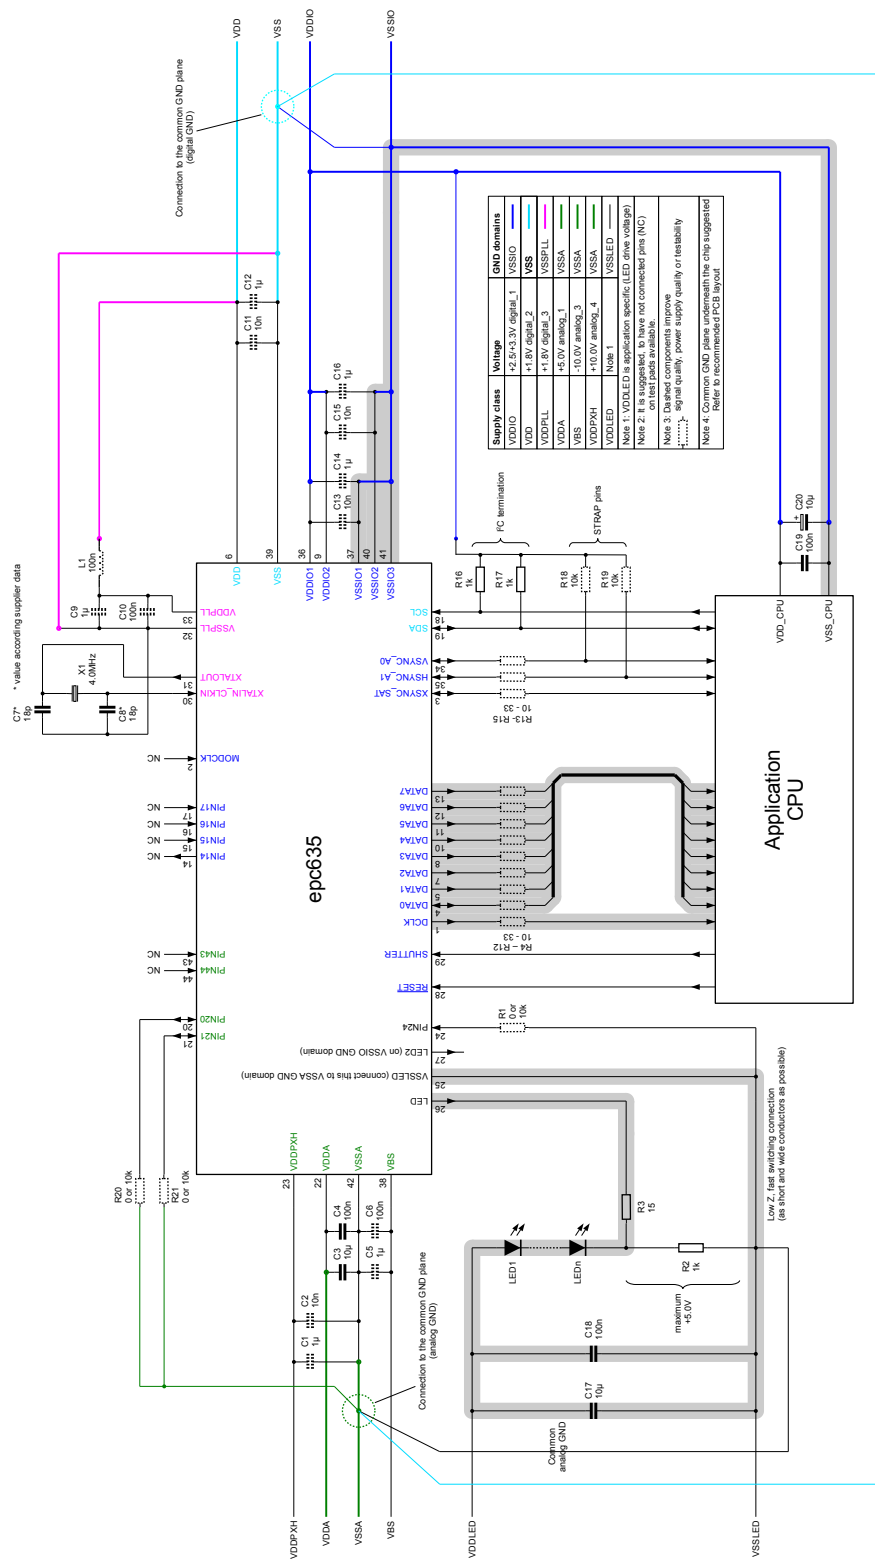
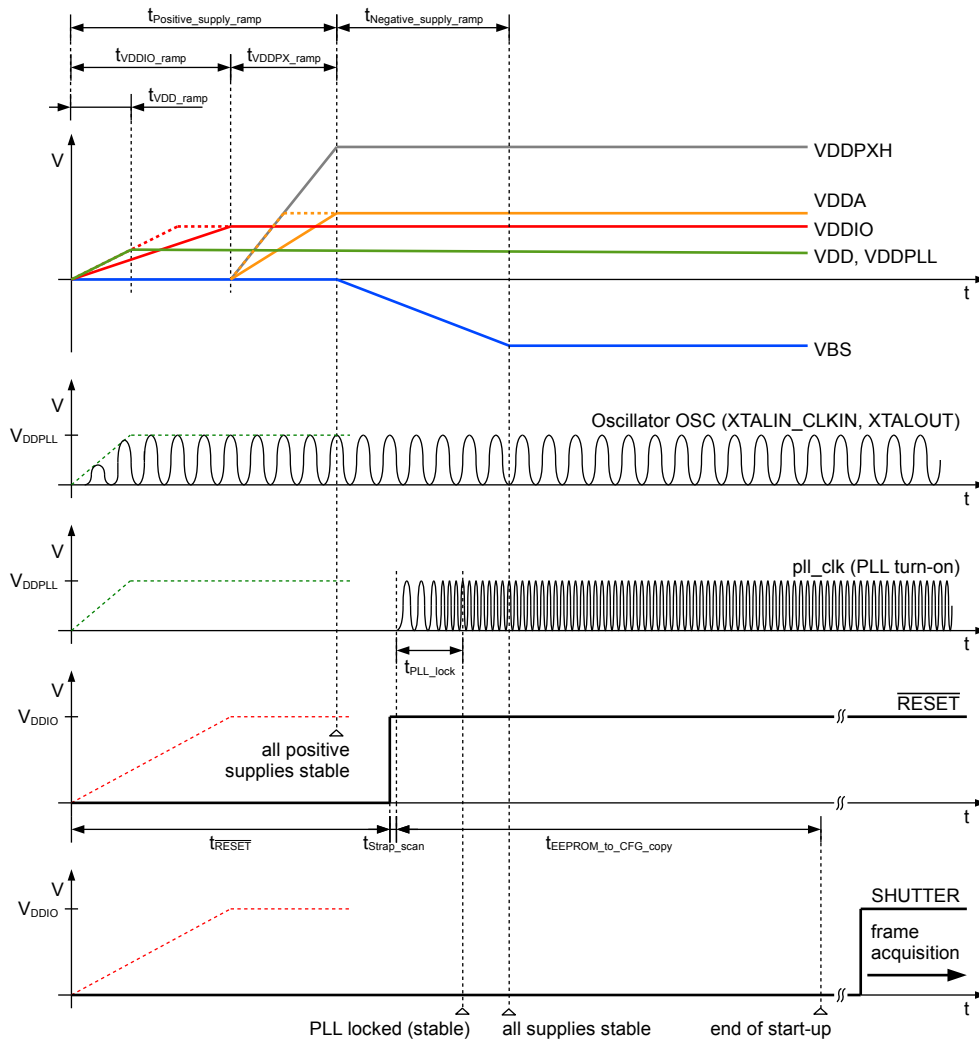

Figure 16: Typical application diagram
Figure 20: Power-up and reset sequence
Table 11: Values of component related to epc635 chip, see Figure 16
- +1.8V is used for supplying the digital logic (VDD), the on-chip oscillator OSC and the phase-look-loop PLL (VDDPLL). The digital logic creates some internal switching noise on VDD. When the same supply is shared together with OSC and PLL, their supply wiring must be separated from the digital wires and physically isolated from each other. These supplies are marked in the application diagram as VDD and VDDPLL respectively (Figure 16). A good practice is inserting on the PCB a series inductance of 100nH between them close to the supply source, then creating separate supply islands for both on the board. The XTAL/OSC and PLL are critical parts of the chip which directly impacts the optical system performance (i.e. distance calculation).
- +5V is used for supplying analog blocks of the chip e.g. pixel-field drivers and ADC readout circuitry. Refer to Figure 16.
15. Pins not listed here have to be connected according Figure 16.
During power-up, VDD and VDDPLL supplies (Figure 20) must be applied at the same time to the epc635. VDDIO can be applied either at the same time or after VDD and VDDPLL supplies become stable. In a system where VDDIO voltage is connected in parallel to application CPU IO supply pins (see Figure 16), VDD and VDDPLL can be generated by a linear regulator directly from VDDIO supply. In this case, all these three supplies ramp together.
The epc635 starts using either the internal 4MHz oscillator OSC with a crystal/resonator (Figure 16) or an external 4MHz clock, followed by an EEPROM copy sequence in parallel to the PLL turn-on phase. This is the factory default configuration. Several configuration registers are modified by copying the EEPROM content (Figure 49, i.e. overwrite reset values). The EEPROM copy step takes 340µs after the RESET is released.
The epc635 has output pins with dual/alternative functionality for PCB level flexible start-up configuration changing, called 'strap pins'. RESET release is followed by a strap pin scanning step. The chip programs its strap pins as inputs with internal pull-down resistors enabled for 4 osc_clk periods (refer to Table 1 and Table 3). If there is no external pull-up resistor connected, the corresponding strap pin will be scanned as logic 0 due to the internal pull-down resistor. If there is an external pull-up resistor connected (Figure 16), it will override the internal pull-down and corresponding pin will be scanned as logic 1. After the strap scan period, pins are programmed back as outputs so that they can be used for their main function. Strap pins and their definitions are listed below (Table 12).